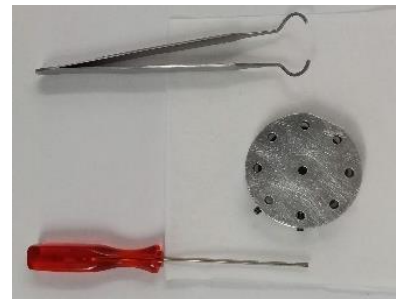

Figure 2
- Keep record of system vacuum and gun vacuum before beginning to load sample (**Figure 2**). For better imaging, gun and system should have high vacuum.
- Prepare the sample on **carousel** (**Figure 2**)